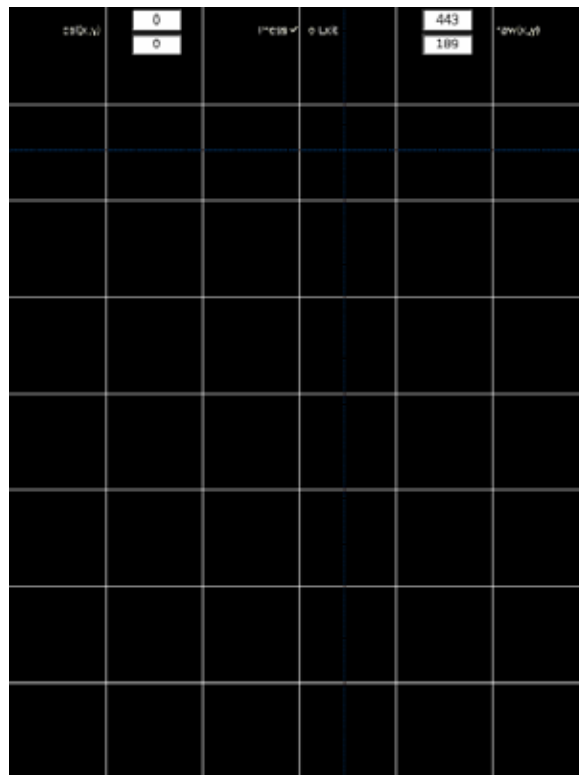

*Figure 5-15: Download Complete Screen*
2. When the software download is complete, the download complete screen appears (Figure 5-15).
2. At the touch screen diagnostics screen (Figure 5-15), touch the screen in multiple places to verify correct touch screen function.